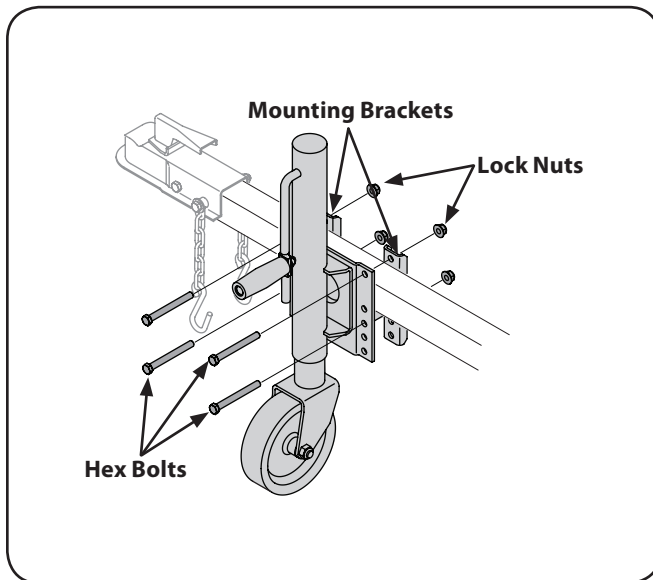

Figure 3-1
2. Place the adjustable jack stand halfway between the beam support/latch bracket and end of the tongue. See Figure 3-1.